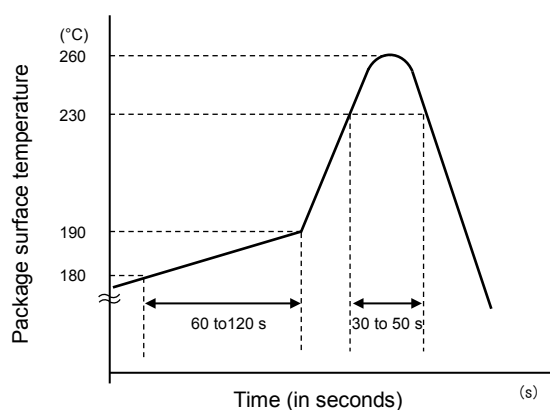

Figure 2 Example of Temperature Profile
- (2) Complete the infrared ray reflow process within 30 to 50 seconds when a package surface temperature is 230°C or higher. The maximum package surface temperature should be kept below 260°C.
(3) Figure 2 shows an example of temperature profile.
(1) Complete hot air reflow process within 30 to 50 seconds when a package surface temperature is 230°C or higher. The maximum package surface temperature should be kept below 260°C.
(2) Figure 2 shows an example of temperature profile.
(5) Using Flow or Dip Soldering